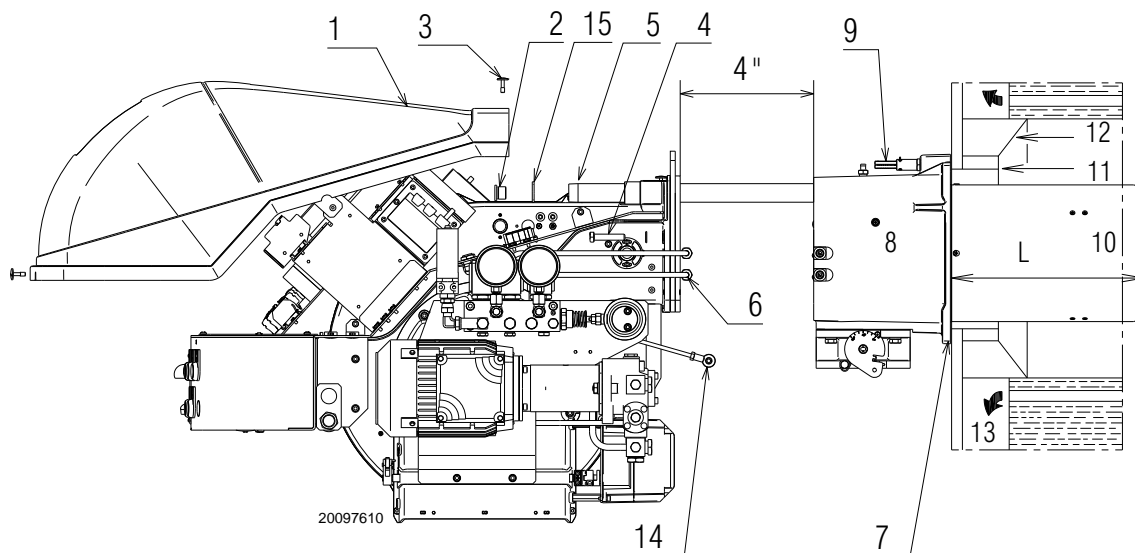
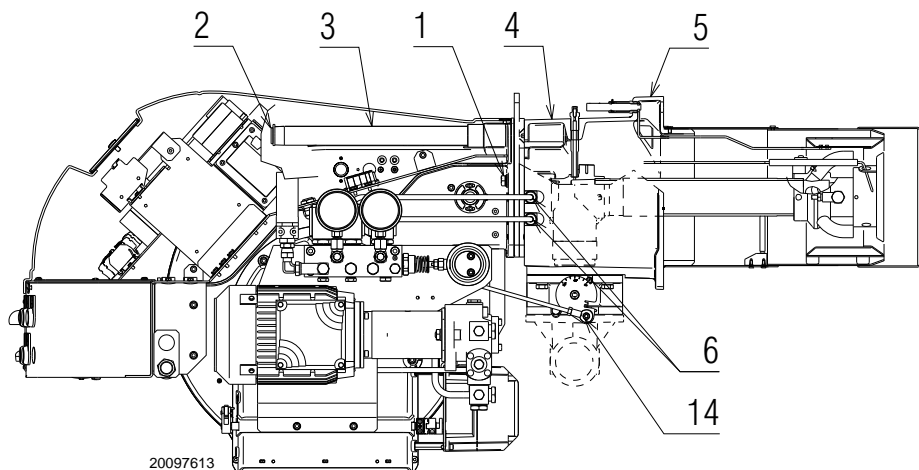

Fig. 12
Fig. 22
For boilers having a water-cooled front, the insulation 11)-12) (Fig. 12) is not required unless it is required by the boiler manufacturer.
Detach the combustion head from the burner, (Fig. 12):
- Refit the burner to the slide bars 3) (Fig. 22) at approximately 4" from the sleeve 4) - burner positioned as shown in (Fig. 12, page 18) - insert the ignition electrode cables.
- Slide the burner up to the sleeve so that it is positioned as shown in (Fig. 22);
- refit screws 2) (Fig. 22) on slide bars 3) including the safety plate 15) Fig. 12, page 18;
- connect the oil pipes again by screwing on the two connectors 6) (Fig. 12, page 18).